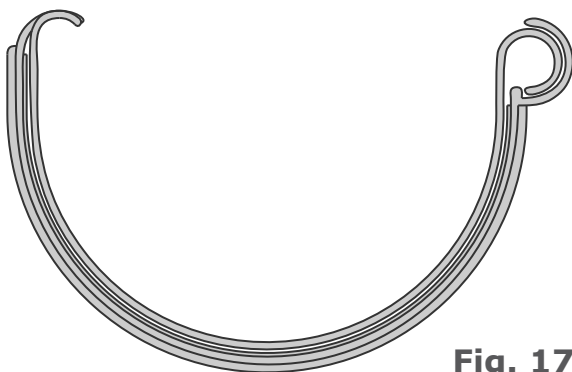

Fig. 17
10.2. Rotate the fitting into position, clipping the fitting tab over the rear facing bead into the notched gutter end. Fig. 17.